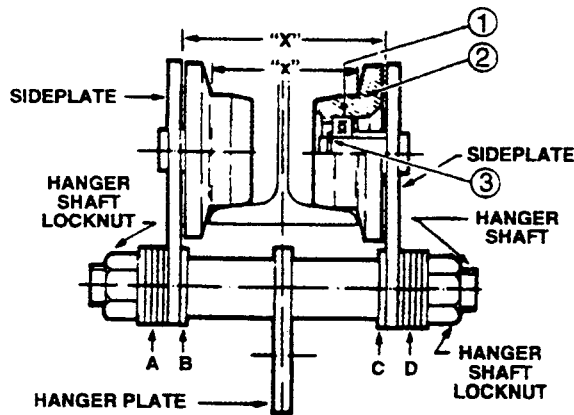

FIGURE 1
- Measure I-beam flange width. Refer to the spacer washer adjustment chart (Chart 3 on reverse) for initial trolley adjustment. Check "X" dimension (see Figure 1 below) against Chart 3 and compare wheel flange spacing to beam flange width measurement before actually installing trolley on beam.
- Observe trolley operation. The trolley should move freely with the wheel flanges as close as possible to the edge of the I-beam. If it appears that the trolley sideplates could be moved closer together and still maintain freedom of movement, move one additional washer from location C to location D (Figure 1).
- If additional adjustment is required, be sure to keep the hanger plate as near to the center of the trolley as possible. There should be no more than one washer difference between locations B and C (Figure 1).
CHART 3 - SPACER WASHER ADJUSTMENT (Quantity and Location - Refer to Figure 1)